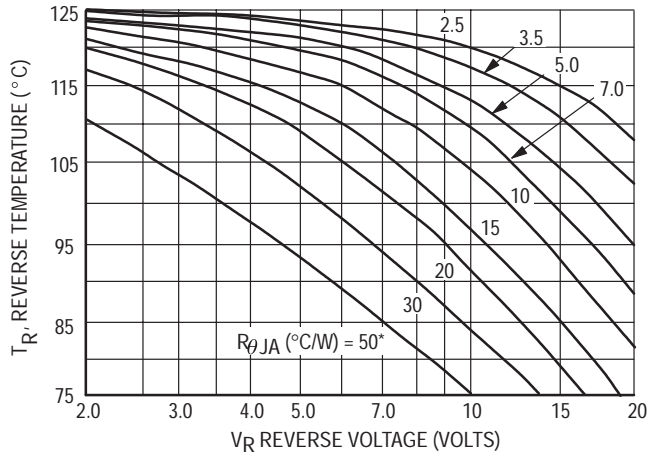

Figure 1. Maximum Reference Temperature – 1N5826
Inspection of equations (2) and (3) reveals that T_R is the ambient temperature at which thermal runaway occurs or where $T_J = 125^\circ\text{C}$, when forward power is zero. The transition from one boundary condition to the other is evident on the curves of Figures 1, 2, and 3 as a
difference in the rate of change of the slope in the vicinity of 115°C . The data of Figures 1, 2, and 3 is based upon dc conditions. For use in common rectifier circuits, Table 1 indicates suggested factors for an equivalent dc voltage to use for conservative design, i.e.: